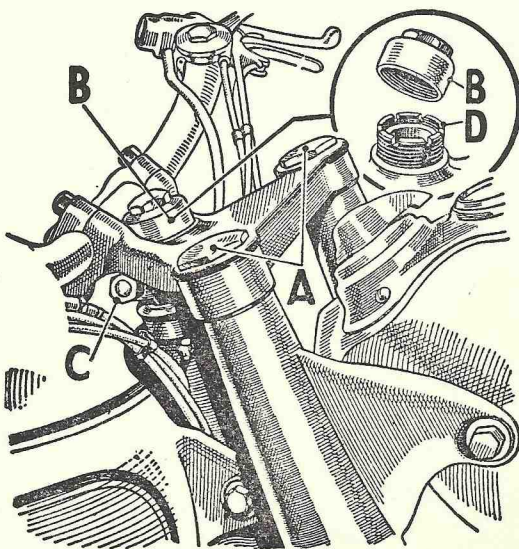
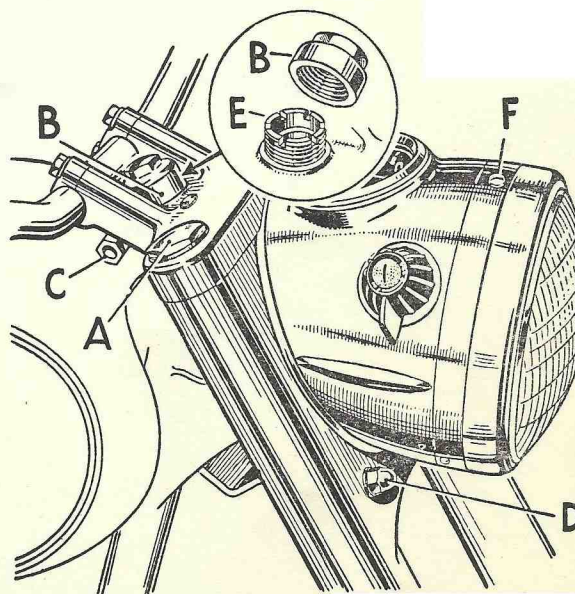

Fig. C31. The Front Fork & Steering Head.
Fig. C31A.
On later models of the type shown in Fig. C31A the lamp is not removed, but it is necessary to take off the lamp front by unscrewing pin (F) and to disconnect the speedometer cable and the leads to the switch.
Detach the handlebars complete with controls, and lay them on top of the petrol tank, using a piece of rag to protect the enamel. Remove the chromium-plated top caps (A) and (B) Fig. C31. Slacken the pinch bolt (C) and remove the adjusting sleeve (D) or (E) Fig. C31A. Tap off the fork top yoke by striking it with a mallet underneath its two sides alternately.